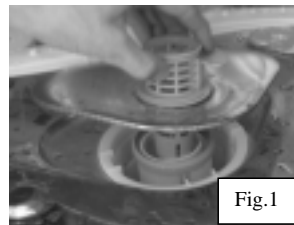

Fig.1
**Step 2:** Remove filter from base of machine (Fig.1)